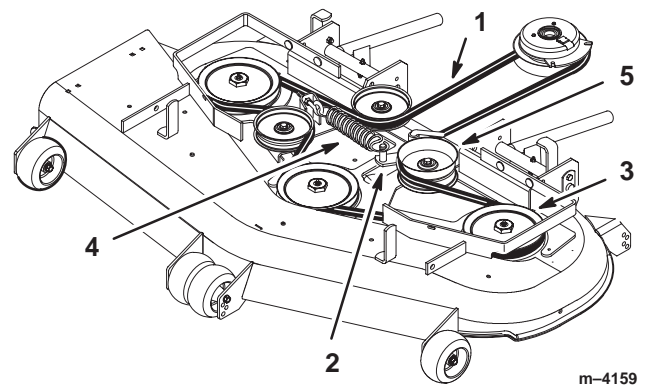

Figure 58
5. Remove the belt. Start at the outside pulley and rotate the belt off (Fig. 58).
8. Install the idler pulley and route the belt onto the other pulleys (Fig. 58).